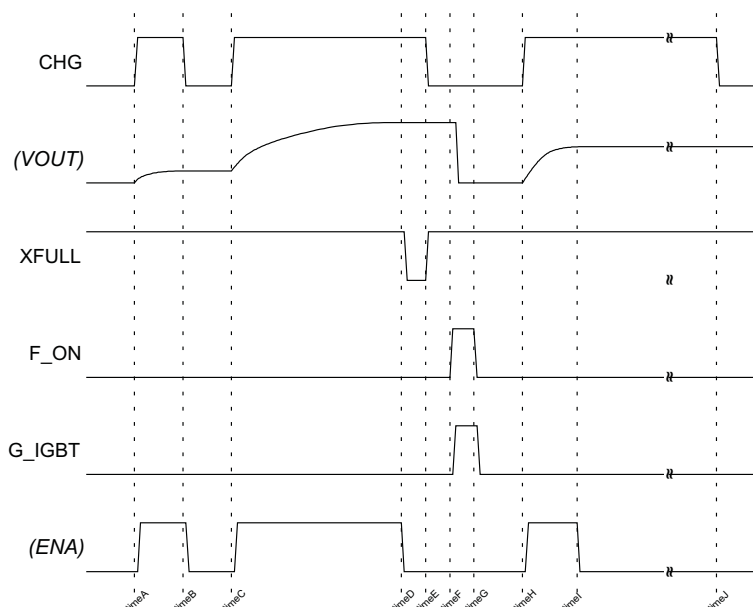

Figure 4. Whole Operation Sequence Chart
TPS65562 has one internal enable latch, F1, that holds the charge enable (ON/OFF status) of the device (see Figure 4).
The only way to start charging is to input  $\text{CHG}\uparrow$  (see time A/C/H in Figure 4). Each time  $\text{CHG}\uparrow$  is applied, the TPS65562 starts charging.
1. Forced stop by inputting  $\text{CHG} = \text{L}$  from the controller (see timeB in Figure 4).
2. Automatic stop by detecting a full charge. VOUT reaches the target value (see TimeD in Figure 4).
3. Protected stop by detecting an overcurrent function (OVDS) trigger at SW pin (see TimeI in Figure 4).
The TPS65562 provides an over voltage monitor function of the SW pin. The TPS65562 is latched off if the voltage on the SW pin is above OVDS during the switch ON time (see Figure 4 and its descriptions).